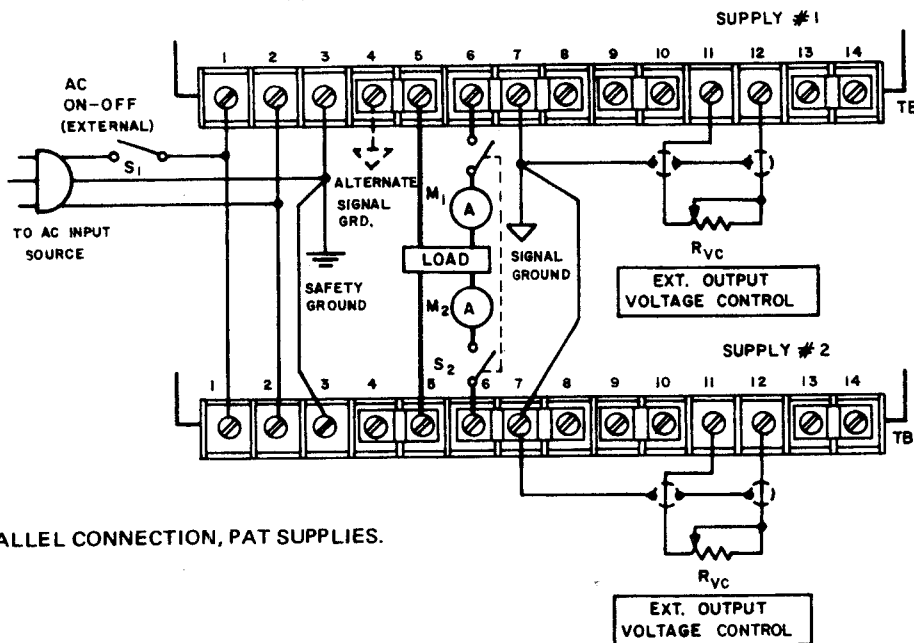

FIG. 3-13 PARALLEL CONNECTION, PAT SUPPLIES.
3-38 PROCEDURE (Refer to FIG. 3-13.)
- a) Connect units as shown in FIG. 3-13. Open SW-1 and SW-2 and connect to line.